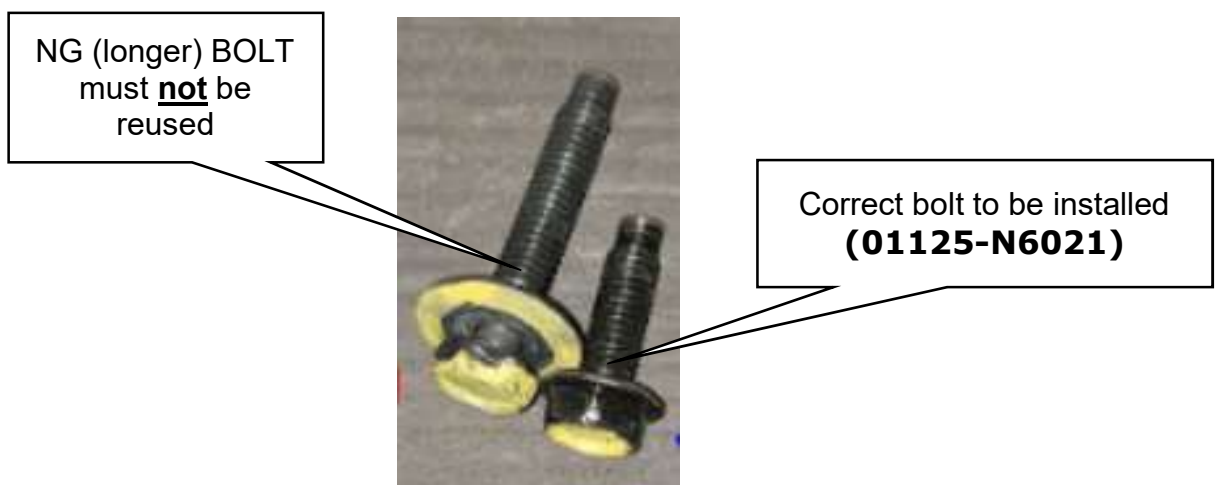

Figure 1
- Discard this bolt (Figure 1)